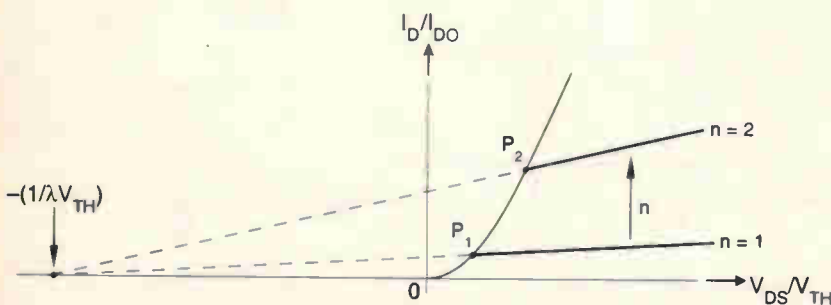

Fig. 8. Definition of the channel-modulation parameter, λ .
In dimensionless form – see Fig. 8 – equation (8) becomes,